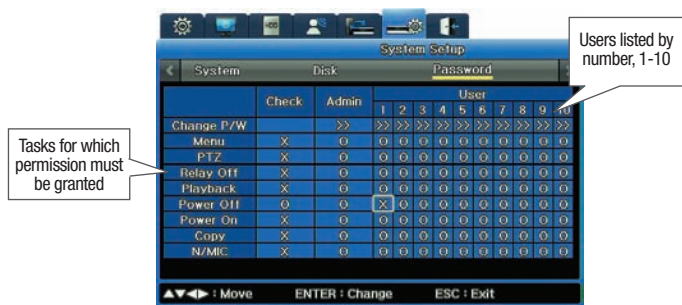

Figure 6.3.1 Password submenu on the System Setup Menu
- In the figure: 6.3.1 Password submenu on the System Setup Menu, User 1 has permissions for Menu, Playback, and Power Off. User 2 has permissions for PTZ, Relay Off, Playback, Power Off, Power On, and Copy.